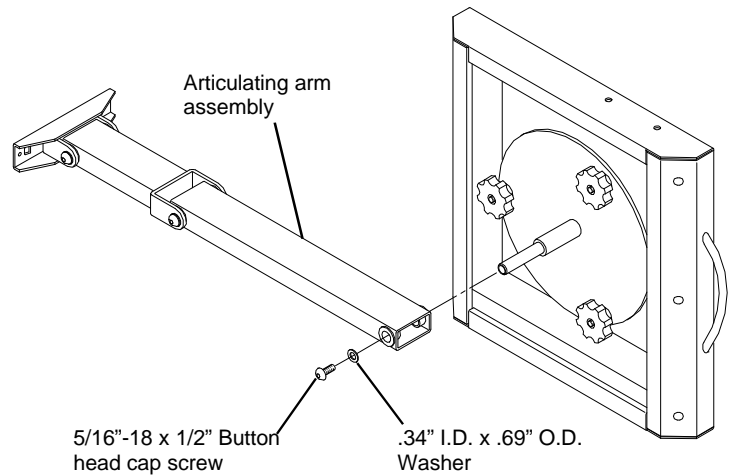

Figure 1
1. Remove the 5/16"-18 x 1/2" Button head cap screw and washer from the shaft located on the bottom of the Monitor Platform. Use the 3/16" Allen wrench provided. See **Figure 1**.
- Slide the end of the Articulating Arm assembly with the thru hole onto the Platform shaft. See **Figure 1**.
- Attach the Arm to the Platform shaft using the 5/16"-18 x 1/2" Button head cap screw and washer. Do not overtighten. See **Figure 1**.